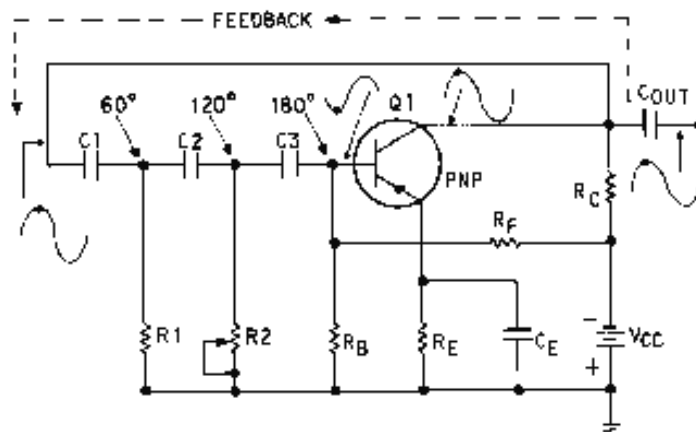

Figure 2-17.—Phase-shift oscillator.
An RC FEEDBACK or PHASE-SHIFT oscillator is shown in figure 2-17. Components C1, R1, C2, R2, C3, and RB are the feedback and frequency-determining network. This RC network also provides the needed phase shift between the collector and base.
The PHASE-SHIFT OSCILLATOR, shown in figure 2-17, is a sine-wave generator that uses a resistive-capacitive (RC) network as its frequency-determining device.
As discussed earlier in the common-emitter amplifier configuration (figure 2-17), there is a 180-degree phase difference between the base and the collector signal. To obtain the regenerative feedback in the phase-shift oscillator, you need a phase shift of 180 degrees between the output and the input signal. An RC network consisting of three RC sections provides the proper feedback and phase inversion to provide this regenerative feedback. Each section shifts the feedback signal 60 degrees in phase.